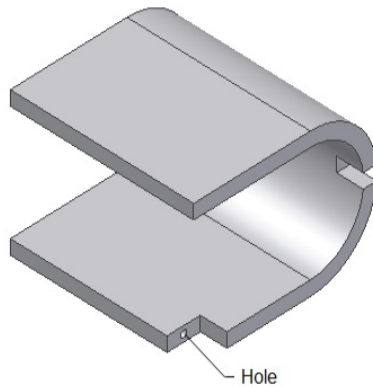
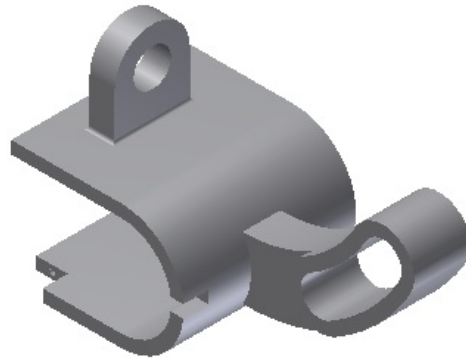

Figure 7-60 Model after creating the hole
Figure 7-61 Final solid model of the Gear-shifter link
- h. Finally, unsuppress all features to complete the model, refer to Figure 7-61.
4. Create a drilled hole of 2.5 mm diameter on the left face of the slot, refer to Figure 7-60. For the location of the hole, refer to Figure 7-45. The depth of the hole is 4 mm. The model after creating the hole is shown in Figure 7-61.
2. Similarly, unsuppress the remaining suppressed features. Choose **Accept** in the **Autodesk Inventor Professional -Unsuppress Feature** dialog box, whenever it is displayed. The final solid model of the Gear-shifter link after unsuppressing all the suppressed features is shown in Figure 7-61.